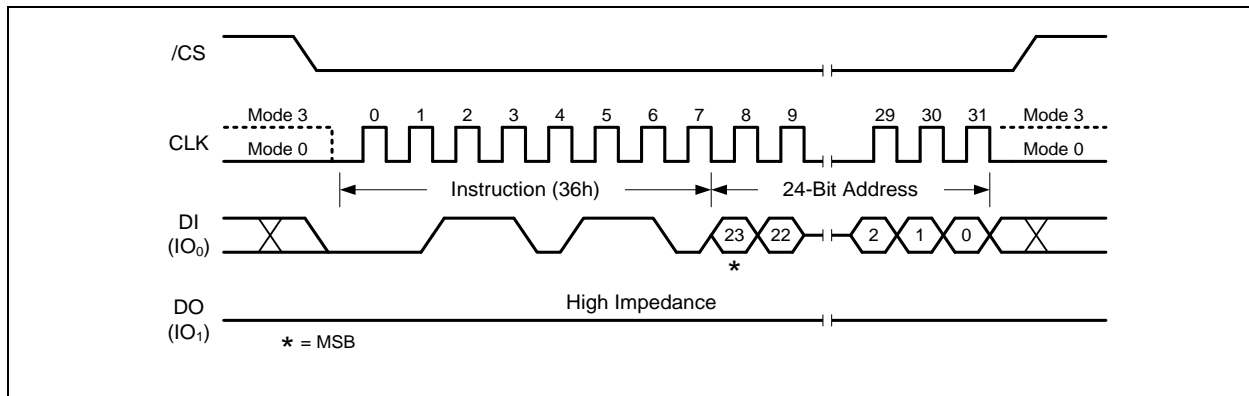

Figure 35. Individual Block/Sector Lock Instruction
To lock a specific block or sector as illustrated in Figure 35, an Individual Block/Sector Lock command must be issued by driving /CS low, shifting the instruction code “36h” into the Data Input (DI) pin on the rising edge of CLK, followed by a 24-bit address and then driving /CS high. A Write Enable instruction must be executed before the device will accept the Individual Block/Sector Lock Instruction (Status Register bit WEL= 1).